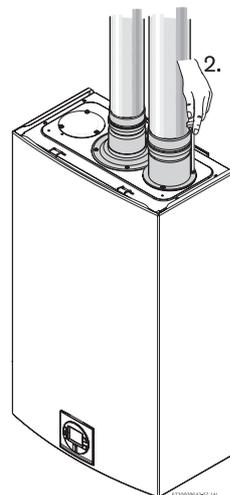

Fig. 24 Inlet connection
- ▶ Attach the combustion air inlet accessory to the top of the unit Fig. 24 (position 2) using the 3 screws and gasket provided, and install 3" air intake pipe over the accessory.